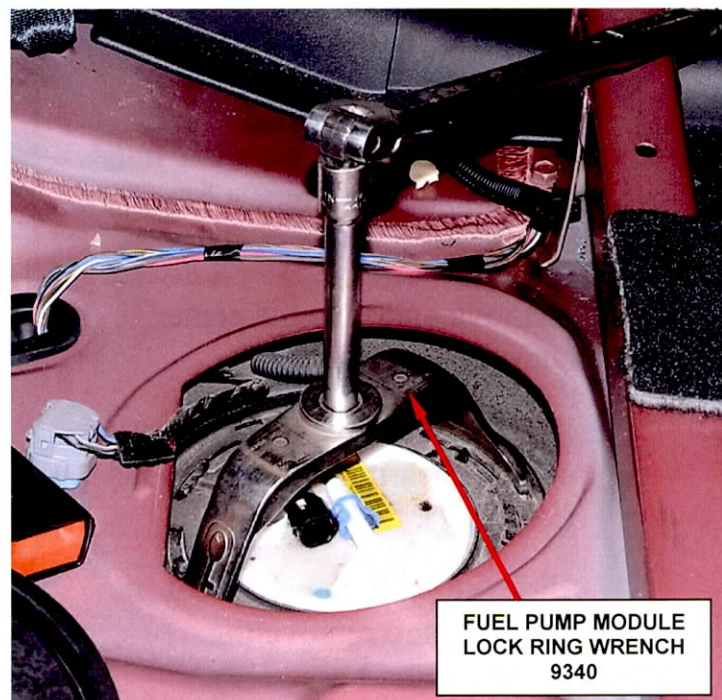

Figure 5 – Fuel Pump Module Lock Ring
6. Using the Fuel Pump module Lock Ring Wrench 9340 or equivalent, remove and save the left side fuel pump module lock ring (Figure 5).